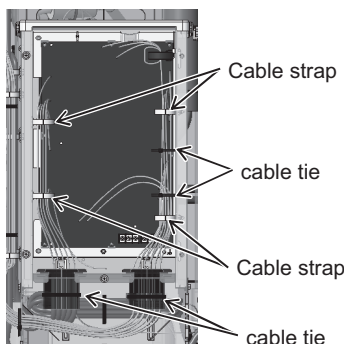

Figure 6
- (7) Cut the two cable ties holding the weak electrical wiring inside the main control box in place, and loosen the four cable straps holding the weak and strong electrical wirings. (See Figure 6.)
- (8) Cut the two cable ties holding the rubber bush at the bottom of the main control box. (See Figure 6.)